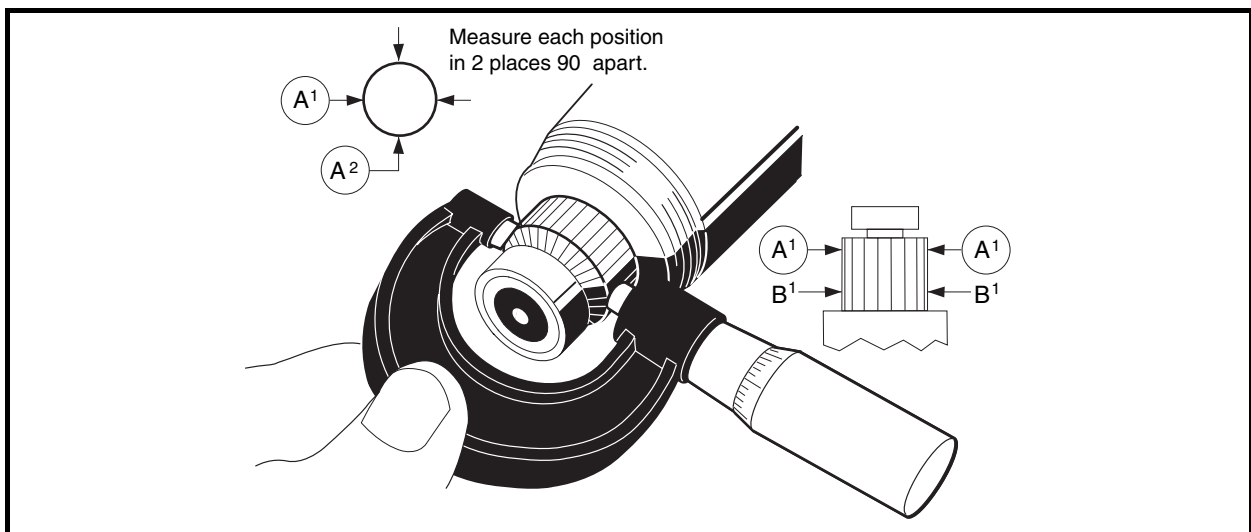

Figure 14-11 Inspect Commutator
2. Using a micrometer, measure the outside diameter at two points along the commutator. If the commutator outside diameter is less than 1.535 inches (39 mm), replace the armature and bearings (Figure 14-11, Page 14-7).